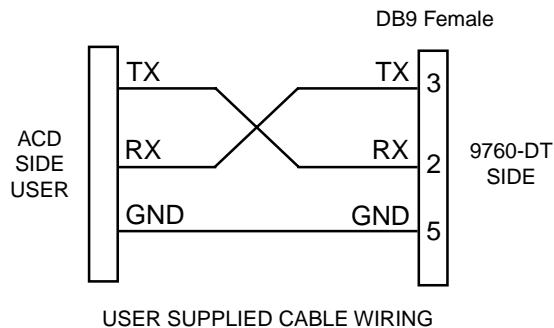
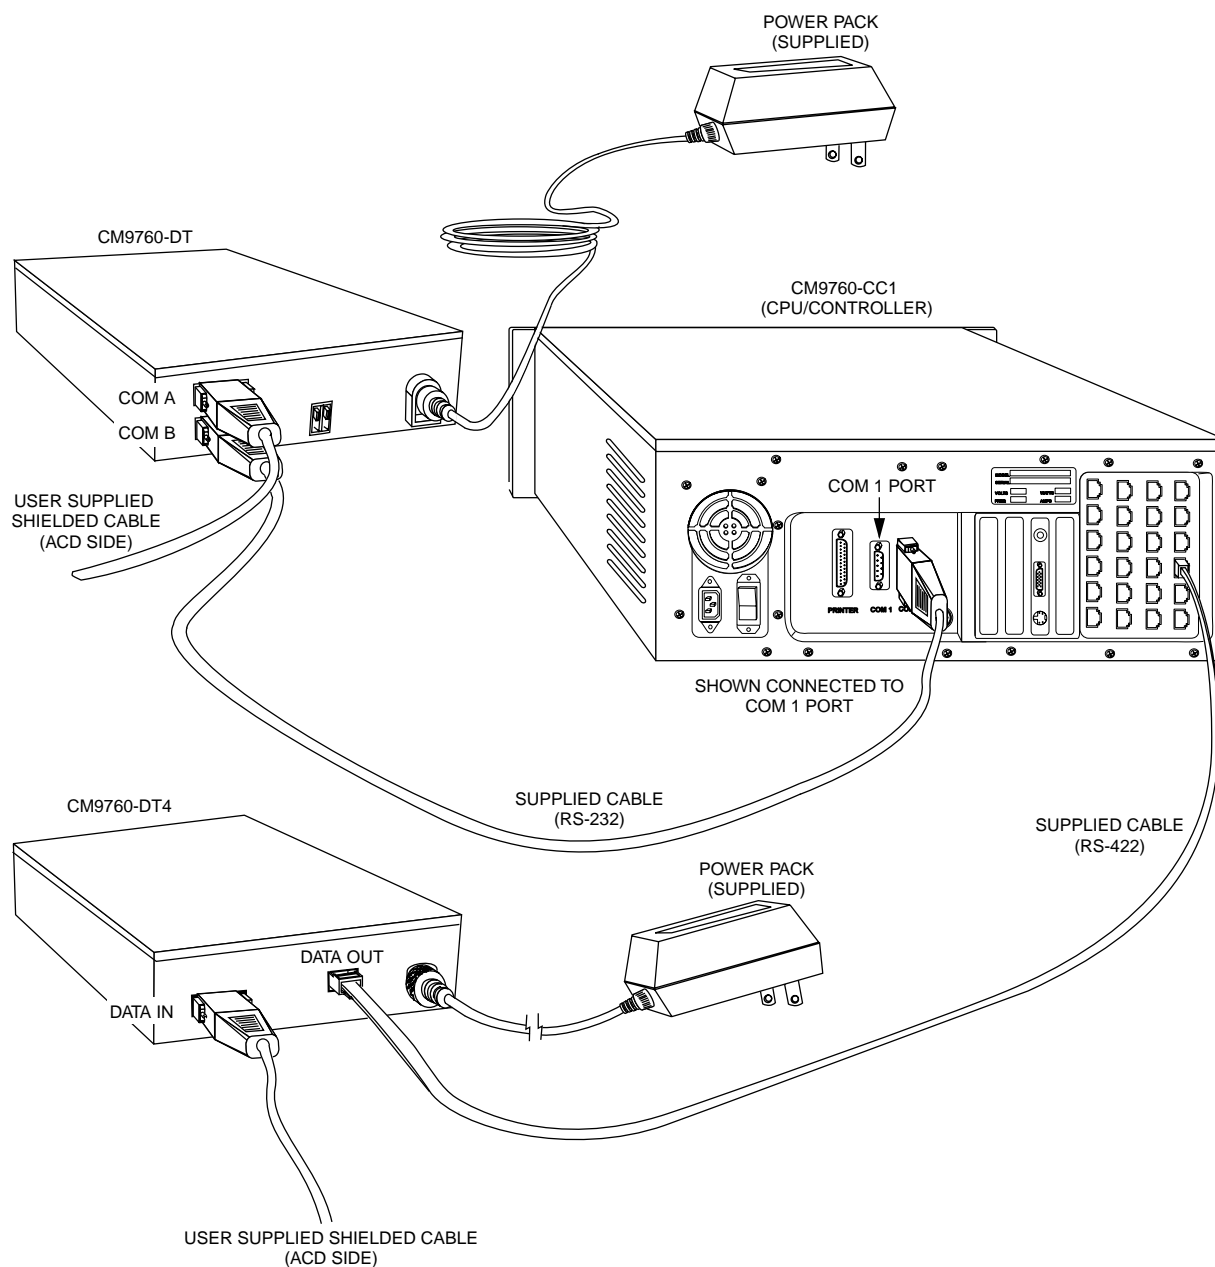

Figure 4. ACD to 9760-DT Cable Wiring
Figure 5. CM9760-DT System Installations
Provides 12 VAC input to the 9760-DT via its rear power input connector (see Figure 4)
Note that the cable used to connect the ACD to the 9760-DT is user supplied and not provided by Pelco (refer to item 5 in Figure 3 and the "User Supplied Shielded Cable" callout in Figure 5).
INSTALLING THE CM9760-DT (refer to Figure 5)
4. Connect the user supplied shielded cable (wired per the pinouts in Figure 4) to COM A (male DB9 connector) located on the rear of the CM9760-DT (refer to Figure 5) or the DATA IN if you're wiring up the CM9760-DT4.